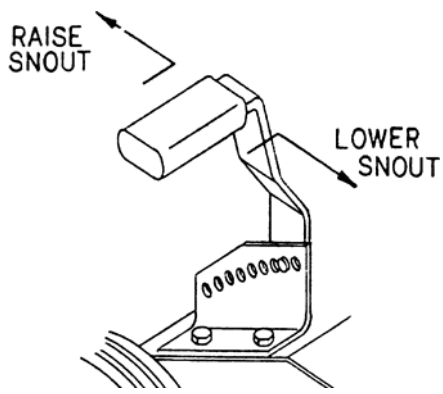

Figure 20
3. To raise the snout: Grasp the height adjuster handle, apply pressure away from the adjuster plate and **BACK** towards the operator's position (**Figure 20**).